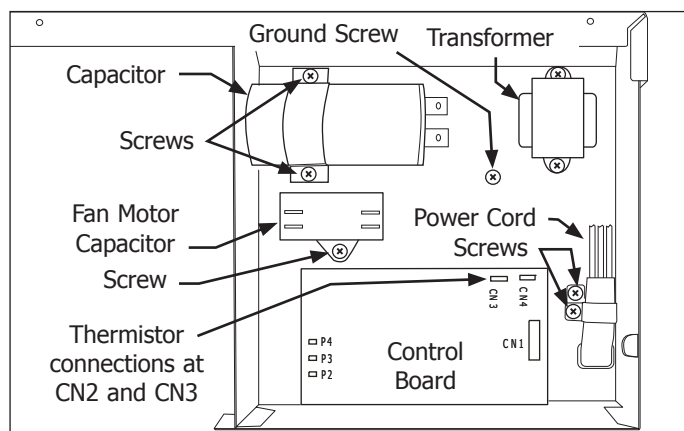

Figure 4-80.
12. Extract screw securing fan motor capacitor to bottom of control box. (See Figure 4-80)
14. Extract the two screws securing transformer to bottom of control box. (See Figure 4-80)
17. Disconnect wire leads from control board. Thermistor connections at CN2 and CN3 may be glued to the control board. Carefully remove glue before attempting to remove the connectors. (See Figure 4-80)